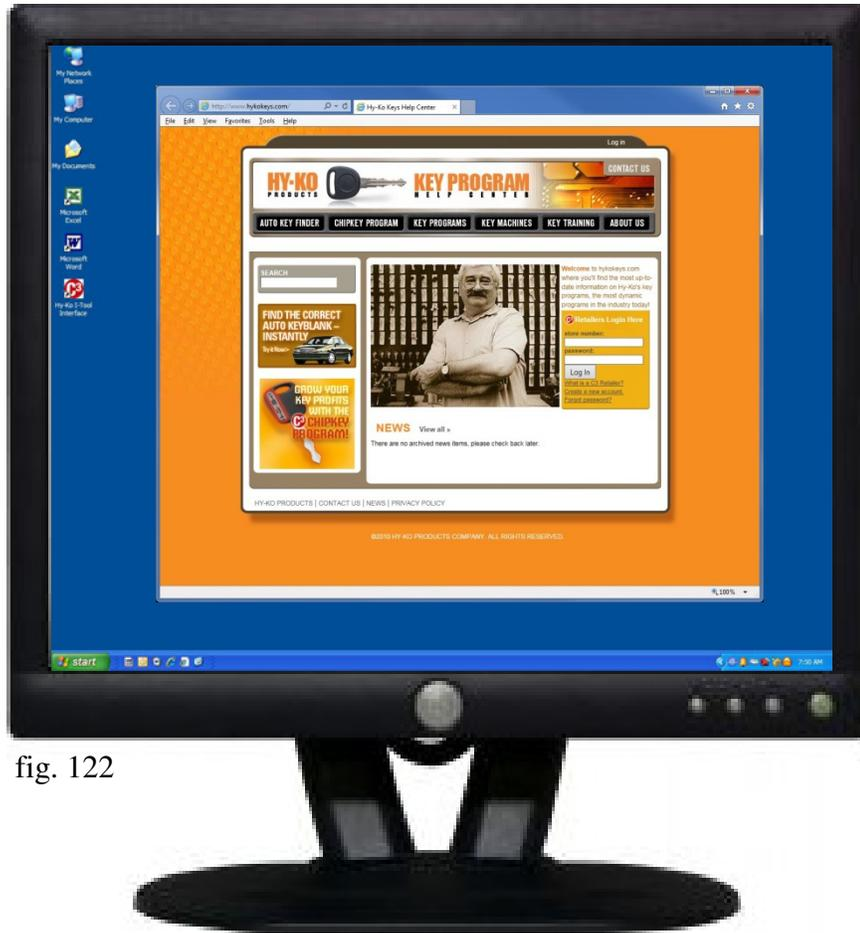

fig. 122
- The ‘HYKOKEYS.COM’ button will launch an internet window and open the hykokeys.com website (see fig. 122).